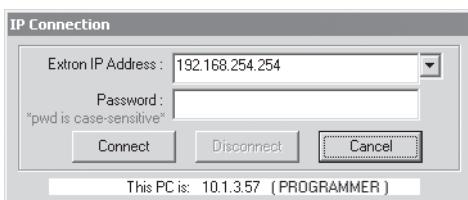

Figure 5-4 — Address and password entry
3. If you selected *IP [LAN]* in step 2, the IP Connection window appears (figure 5-4).